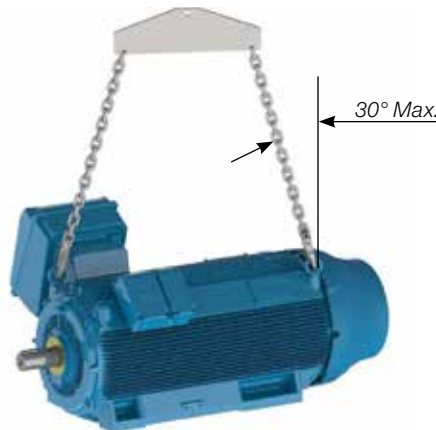

Figure 4.5 - Maximum resulting angle for horizontal HGF motors
- For HGF motors, as shown in Figure 4.5, the maximum resulting angle should not exceed 30° in relation to the vertical axis;